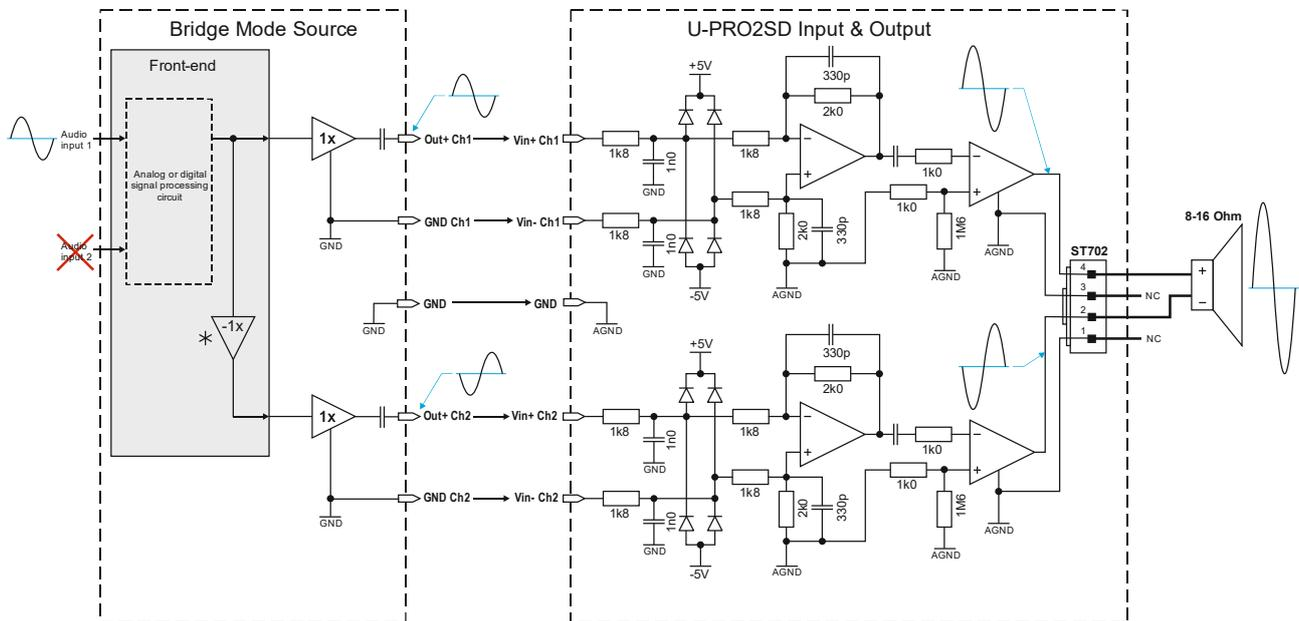

Figure 5-3: U-PRO2SD Amplifier module shown in Bridge Tied Load (BTL) configuration driving one subwoofer
**NOTICE** The \* marking in Figure 5-3, indicates that input for channel 2 must be inverted in the Front End to produce the negative swing of the bridge tied output.